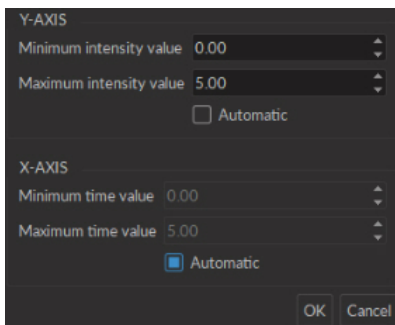

Figure 4.16: Set Custom Display Range Window
- The **Set Zoom** button opens the **Set custom display range** window (Fig. 4.16). This window allows the selection of the axis values associated with the **Reset Zoom** button. The **Automatic** option will choose values to display all loaded data.